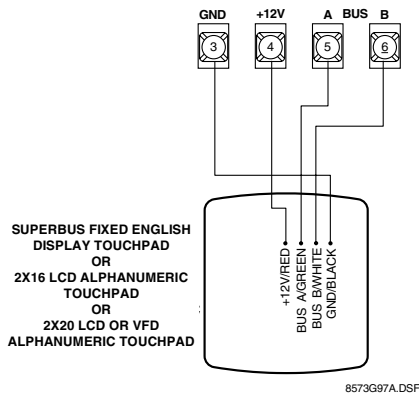

FIGURE 2-23. Wiring the Touchpad to the Panel.
4. Connect the touchpad wiring to the panel terminals as shown in Figure 2-23.